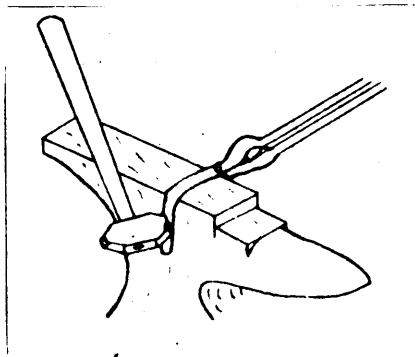

Figure 3.
4. Bend stock to a sharp right angle. (Figure 3). There should be a gradual bend at first by striking blows beyond the mark. Blows must be struck on top of stock frequently as shown by the arrow in (Figure 3.) The blows on the side and top should be balanced enough to keep the stock in the proper direction. Care must be taken to prevent too much spread at the point of offset, where the right angle is made.